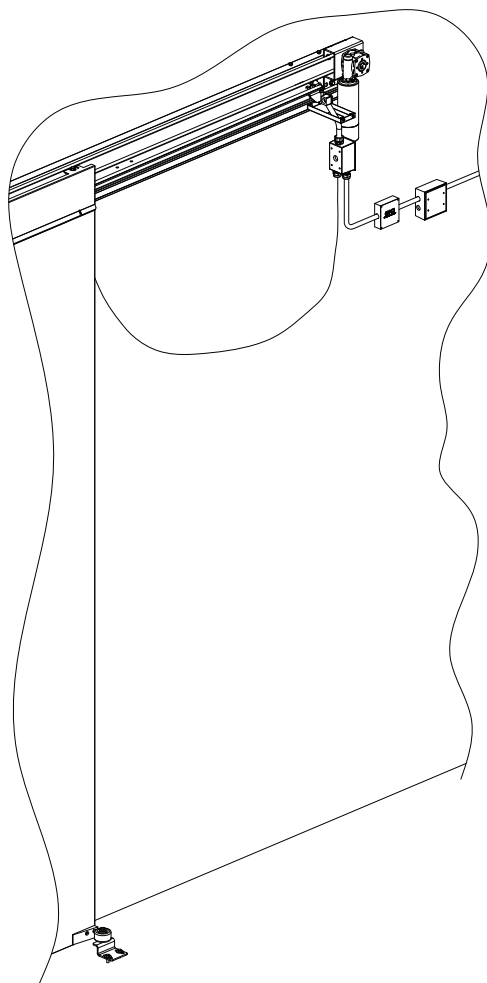

Figure 41: Heat Cable Wiring, Drive Side Panel
- 9 Run 115V (typical) power to main junction box on drive side behind control panel. (Figure 41).